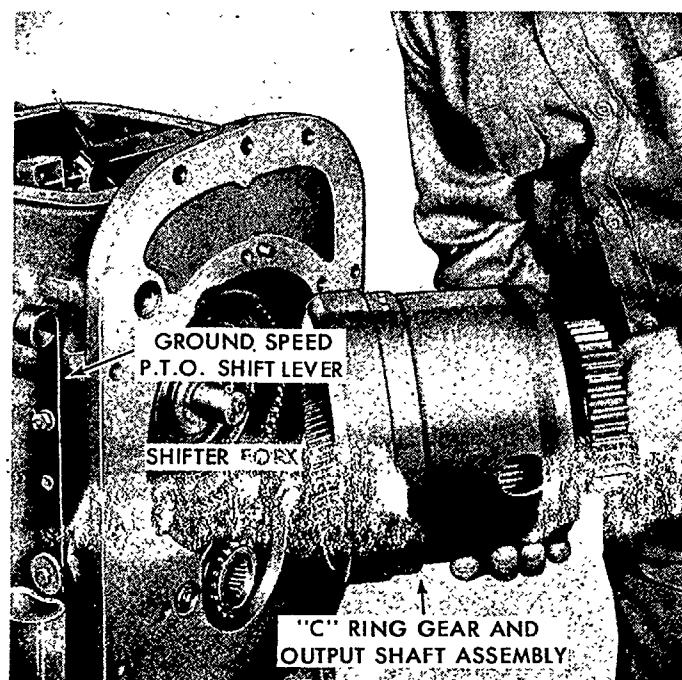

Figure 46
6. Move the ground speed P.T.O. shift lever as required to locate the drive collar shifter fork in its lower position. Remove the "C" ring gear assembly, as shown in Figure 46.